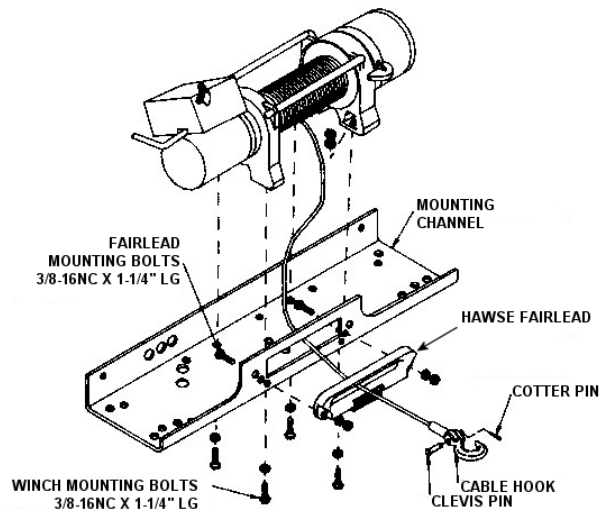
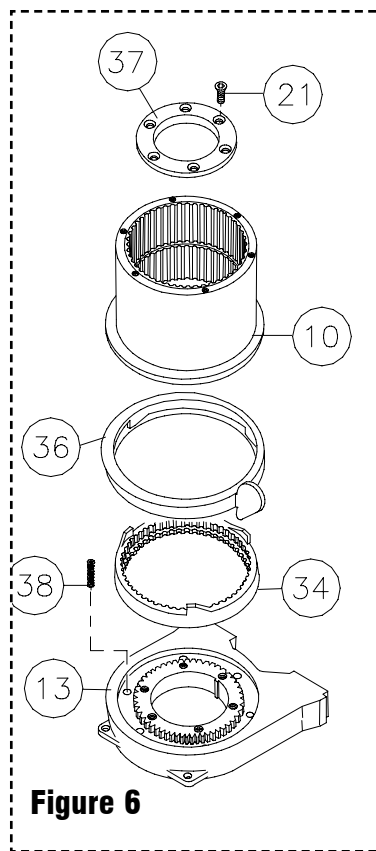

FIGURE 3
Figure 6
(see FIGURE 3). Attach winch to channel. Place (4) flat washers and nuts into pockets of winch mounting feet and thread capscrews with lock washers through mounting holes in channel and into hardware in winch feet.
Place end of drum cable through fairlead and attach cable hook. Use clevis pin and cotter pin (see FIGURE 3).
8. Reassemble Gear Housing as shown in Figure 3. Make sure locking ring is positioned with stop post at marked location. The capscrews (item #38) for the retainer should be tightened to 40-45 in-lbs. **Do not over-tighten.**
9. Place Gear Housing over the stacked gears, etc. that you removed in step 3. Gently work the housing over the stack, turning it as needed to mesh the planetary gears with the ring gear in the housing. Once they are all in the housing, flip the assembly over. Align the Gear Housing Cover and gasket with the holes in the ring gear. Replace the (6) capscrews that hold the Gear Housing Cover onto the Gear Housing. Tighten securely.
11. Turn the Gear Housing over and set it on the work bench with the Gear Housing Cover down. See Figure 6.